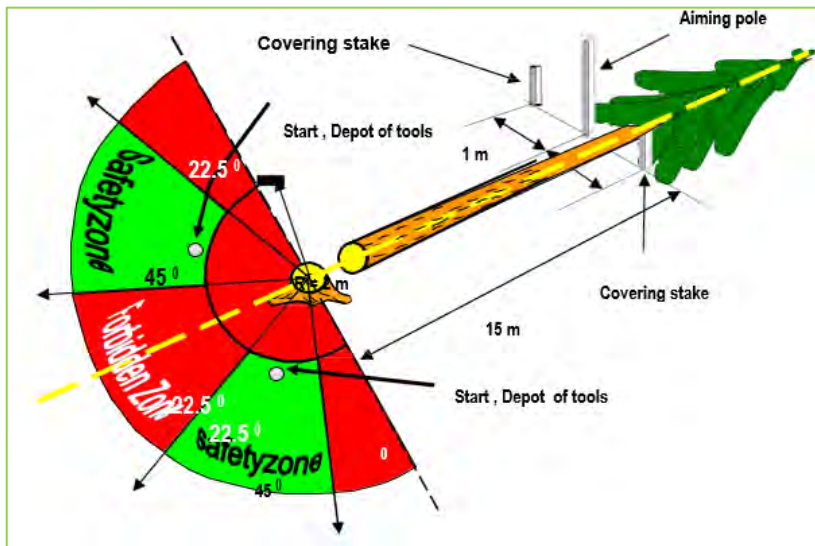
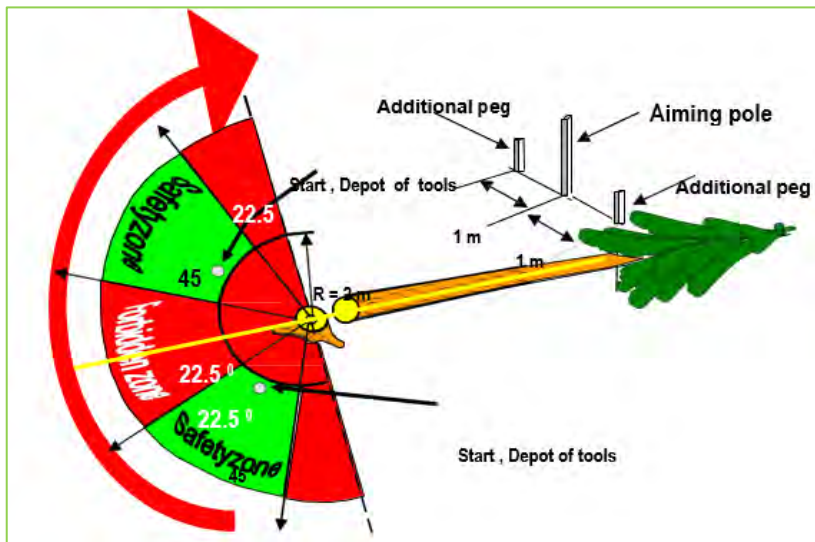
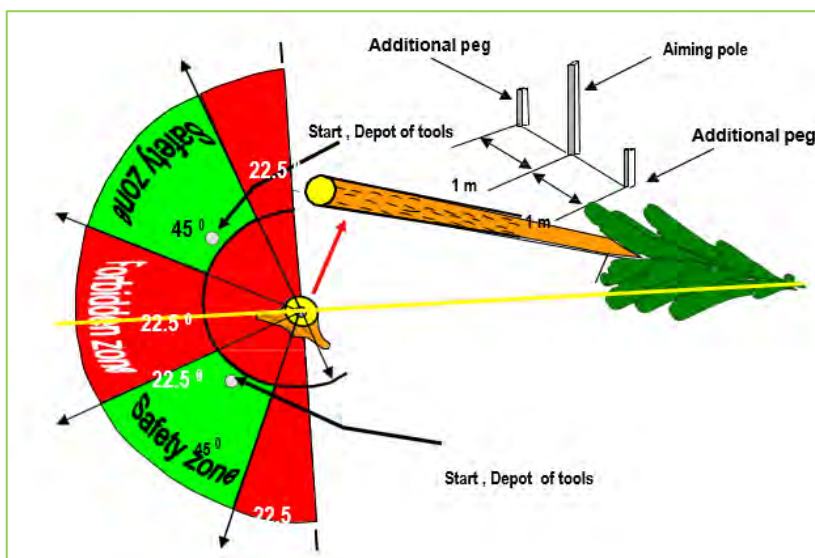

Figure 6: Direction of felling
Figure 7: Safety zone after insecure felling
Figure 8: Safety zone when the tree jumps
- Determining the exact felling direction by the contestant, marking and setting up posts to ascertain the definite felling direction (see figure 6)
- Indicating the starting lines (see figure 6)
- Marking the retreat zone to the left and right of the tree (see figure 6- figure 7)
The contestant determines the exact direction in which he wants to fell the tree. The contestant places or shows where to place a sharpened stake with a length of 1.5 m at a distance of 15 m from the tree. The stake will not affect the fall of the tree. The contestant has a maximum of 2 minutes to determine the direction in which the tree is to be felled. The assistants also place two additional 50 cm pegs at a distance of 1 m on both sides of the stake mark (see figure 6). If there is an obstacle (tree stump, etc.) and another distance has to be selected, the exact distance is noted down.
In the meantime the contestant may prepare the trunk (remove undergrowth, remove earth from trunk). The tools are to be placed in the safety zone before the start (see figure 6). After the start the contestant can move the tools as required.
The forbidden zone is the area that covers an angle of 45° on either side of the sector around the axis of the felled tree. Depending on the danger, the contestant can retreat to either one of the safety zones (see figure 6, figure 7 and figure 8).
When the tree does not fall on the aiming point, then the direction of the safety zone changes corresponding (figure 7).
When the tree jumps after hitting the ground then the template will be put to the stem and according to figure 8 the safety zone will be measured.